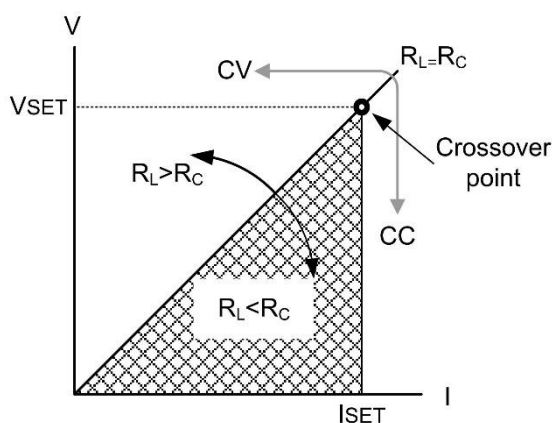

Figure 3-4
Press **Set** to enter the output voltage and current setting page, as shown in Figure 3-4.
When the power supply operates in constant current mode (CC), a constant current is supplied to the load. In constant current mode, the voltage output can vary while the current remains constant. When the load resistance increases to the point where the current limit (ISET) can no longer be maintained, the power supply switches to CV mode. The point at which the power supply switches modes is the crossover point, as shown in Figure 3-4.